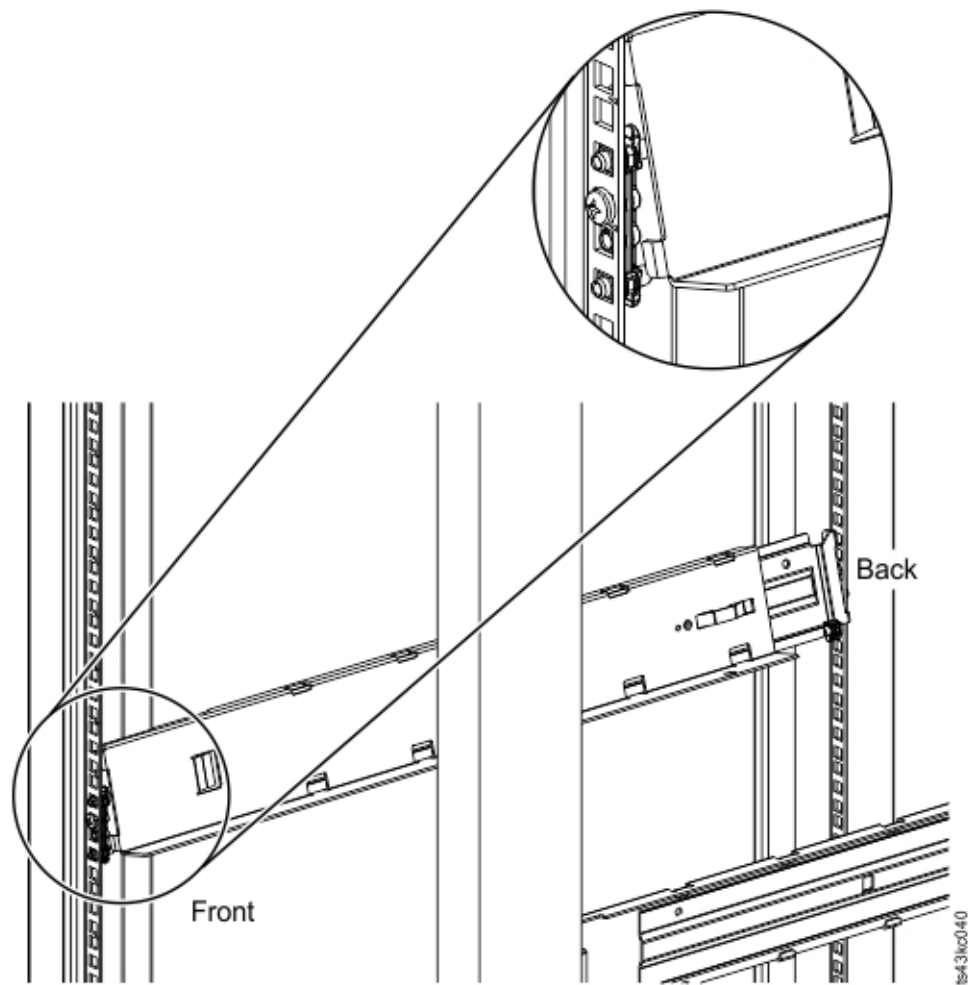

Figure 38. Mounting the rails to the connectors
- d. Mount the LH Rackmount rail to the connectors. See Figure 38 on page 45.